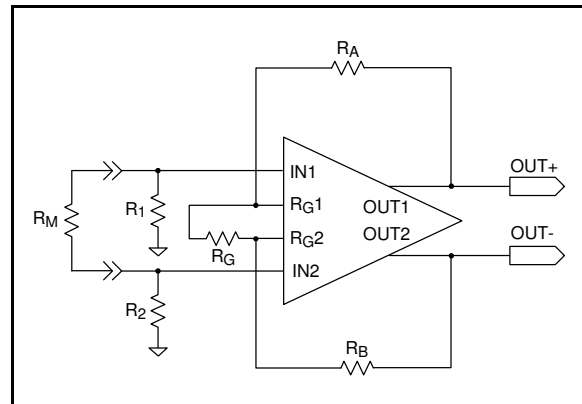
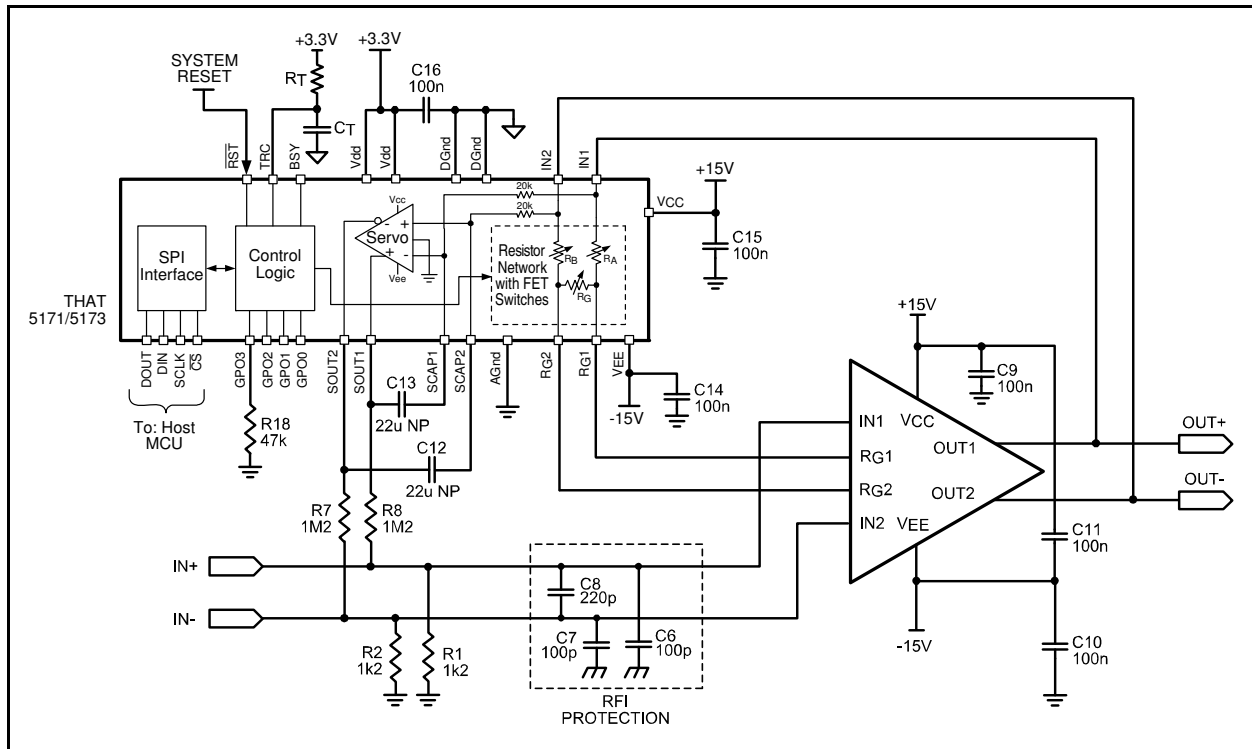

Figure 12. Simple THAT1583 Amplifier Circuit
Figure 17. Basic Application Circuit With THAT 5171/5173 Digital Controller
5. Unless otherwise noted, feedback resistors = 2.21 k Ω ; $C_L = 10\text{ pF}$. Circuit is as shown in Figure 12.
Referring to Figure 12, the THAT1583's differential voltage gain (G) is set by the feedback resistors (R_A and R_B) and R_G , as shown in the following equation. The amplifier's minimum gain is unity (0 dB), which occurs with infinite R_G . The feedback resistors should nominally be equal, though tight tolerance matching is not required.
The noise performance of a preamplifier based on the 1583 is determined as the sum of several noise sources. These are as follows (refer to Figure 12 for component reference designators):
In the circuit of Figure 12, the amplifier's differential gain (G) extends to dc. As a result, the differential dc offset at the outputs will vary with gain. This can produce audible "thumps" when gain is varied quickly, and can produce significant and undesirable output dc offset at maximum gain. Any such offset will reduce the output voltage swing.
Figure 17 shows a THAT5171 or 5173 Digital Controller connected to the 1583. The controller varies R_A , R_B and R_G (from Figure 12) to produce the desired gain based on the gain command provided via the SPI control interface. The feedback network